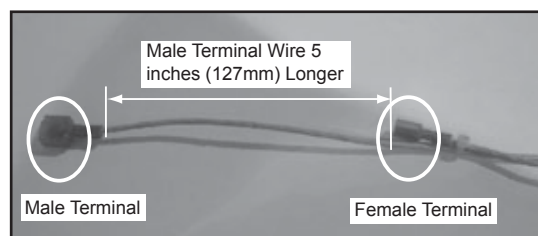

Figure 23.3
6. Re-attach this wire using the small zip ties supplied in roughly the same locations that you removed earlier. Leave the male spade terminal 5 inches (127mm) longer than the female spade terminal that is already attached to the harness. **Figure 23.3.**